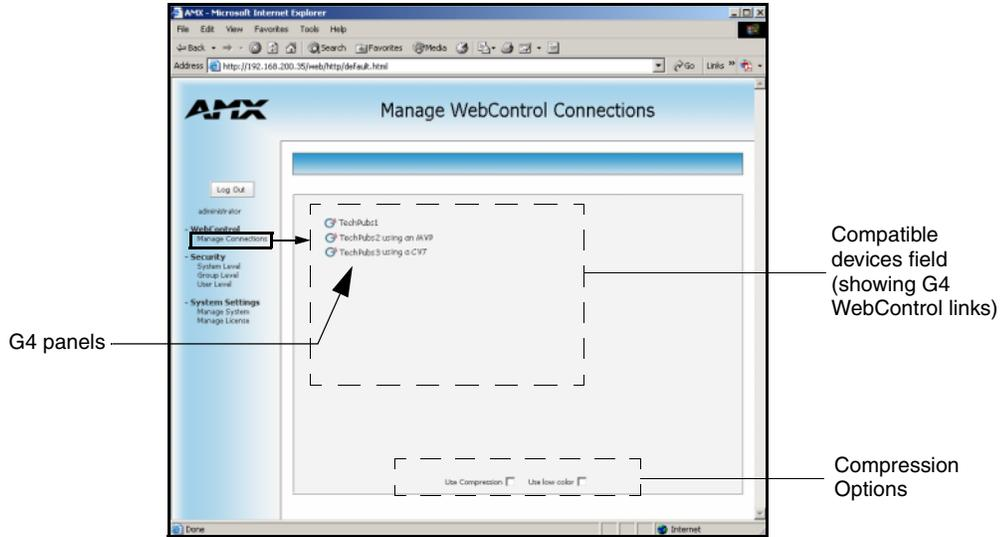

FIG. 67 WebControls window (populated with panels)
6. The first window displayed (FIG. 67) is accessed by clicking on the **Manage connections** link. Once activated, this page displays links to G4 panels running the latest G4 Web Control feature.